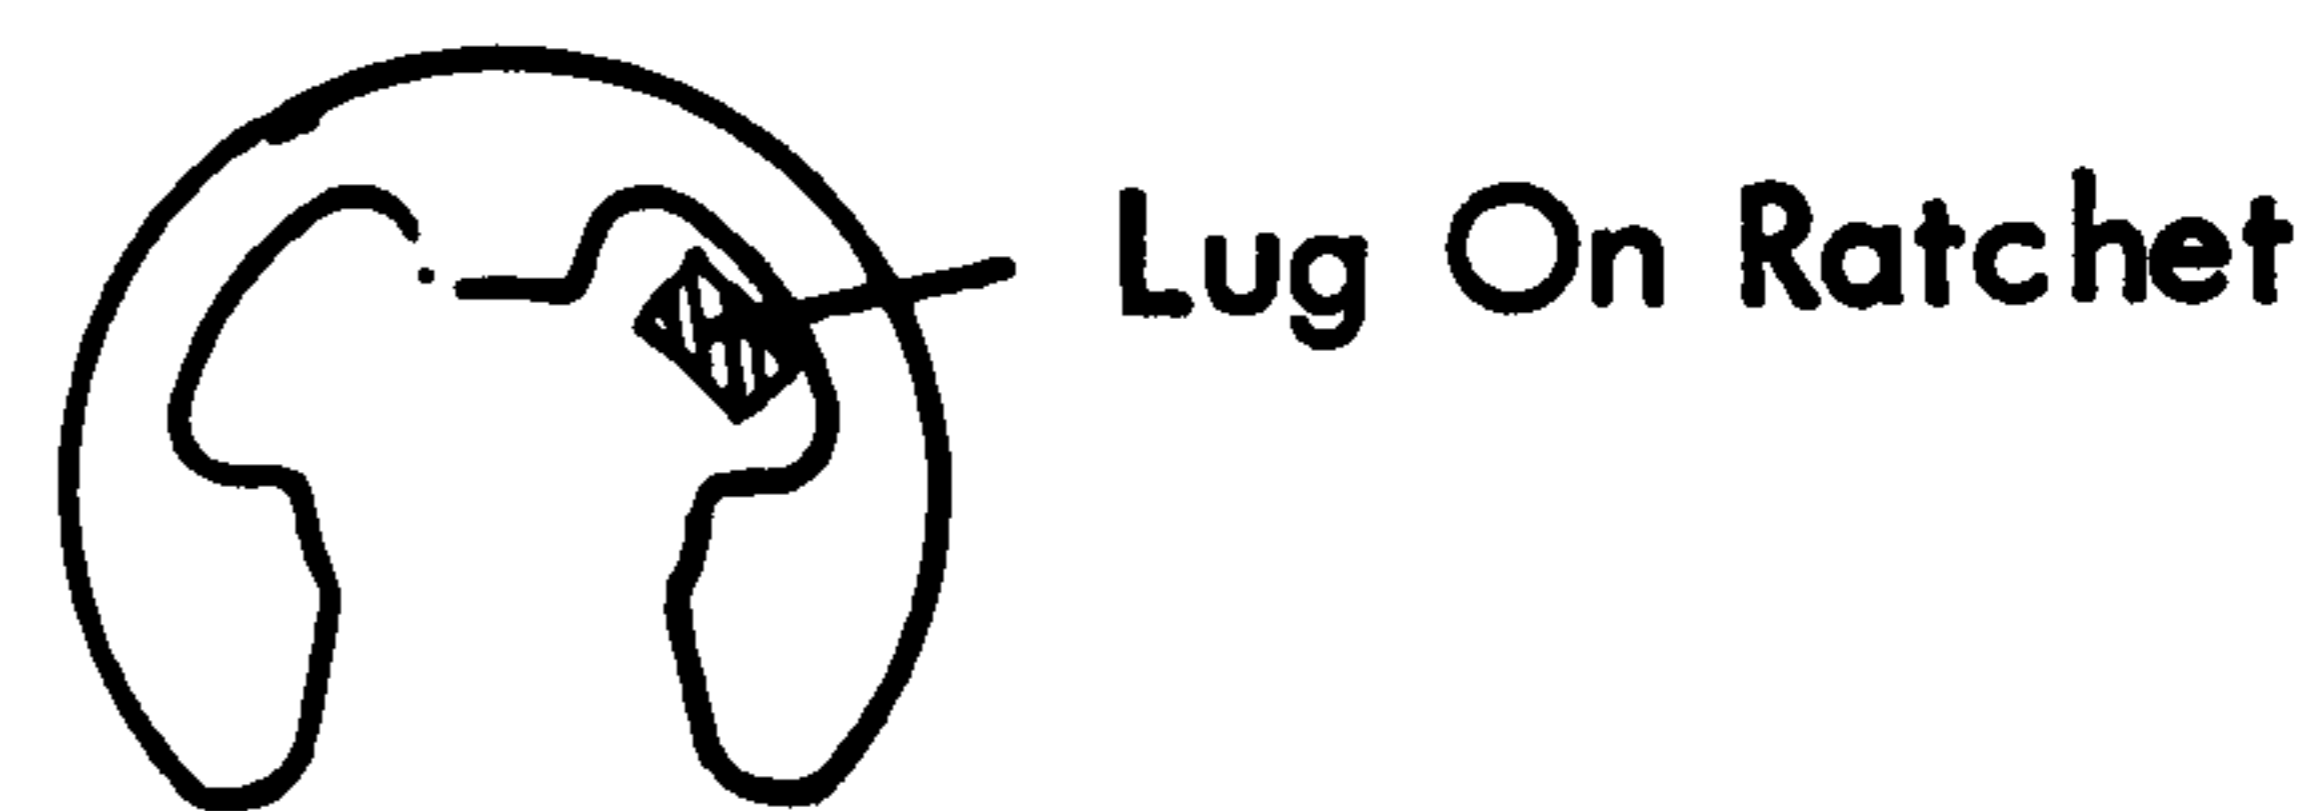

FIG. 4.1
- 4.7 The "C" clip must be inserted so that the lug that extends from the ratchet is in the "C" clip window as shown in Fig. 4.1.